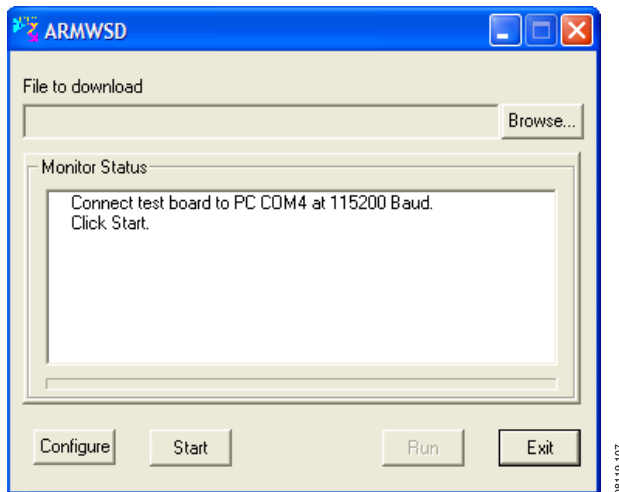
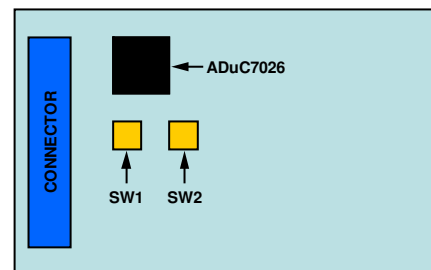

Figure 7. ISEB ARMWSD Firmware Downloader
Figure 9. ISEB Switch Locations for Flashing the Microcontroller
2. Run the **ARMWSD.exe** program located in the **/Drivers/FW/** folder, which displays information about the downloader, as shown in Figure 7.
1. Click **Start**, as shown in Figure 7, to initiate the flashing process. After clicking **Start**, the two buttons on the ISEB shown in Figure 9 must be pressed, in a specific order, to flash the firmware.
The download then begins and is automatically verified by the downloader. If the downloading process fails, which will be indicated in the **Monitor Status** box (see Figure 7), attempt the download again by clicking **Start** and then the appropriate switch combination. It may take a few attempts to reprogram the board successfully.
After the download is completed successfully, click **Run**, as shown in Figure 7, to reset the ISEB and to begin running the new firmware. When this step is complete, the board is updated correctly.
When the system is set up and configured, press SW2, which is shown in Figure 9, to reset the ISEB and have it detect the currently connected satellite. This must be done when the satellite connected to the ISEB is replaced by a satellite of a different part only; replacing the satellite with a satellite for the same part, that is, an EVAL-ADXL345Z-S with another EVAL-ADXL345Z-S, does not require SW2 to be pressed.